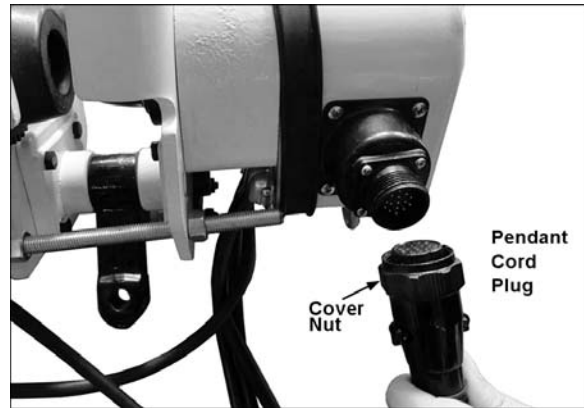

Figure 4
2. Insert the male plug of the pendant cord into the socket on the trolley. See Figure 4. Secure the connection by tightening the cover nut with your fingers.